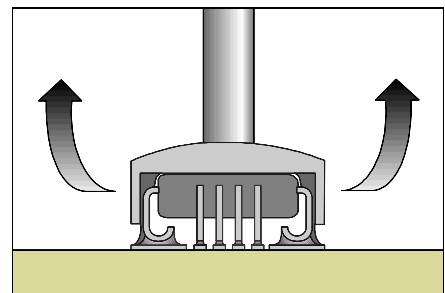

Figure 2: Removing J lead component with conduction tip. After solder has melted lift tip out and up.
2. Place the tip directly over the top of the component. The extra solder on the tip will melt all the solder joints. When the solder has melted slide the component out and up. (See Figure 2).